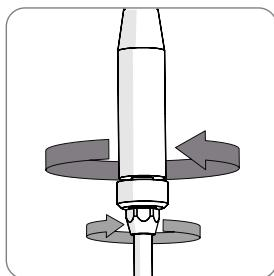

Fig 2
- Tighten fully the large hand nut to pull the two parts of the lance together. (**Fig. 2**)